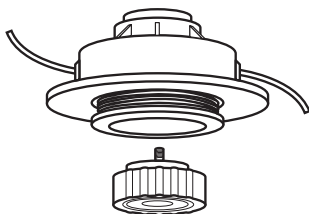

Fig. 34b
7. To replace the spool simply remove from the trimmer head (B11) and replace with a new one of the same type. (See Fig. 34b)